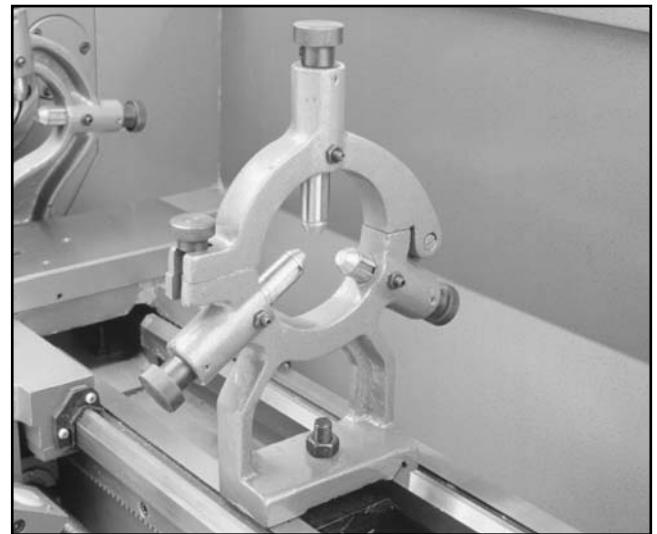

Figure 5. Steady rest in place.
2. A single hex bolt, along with a nut and washer, is used to hold the steady rest in place. See **Figure 5**.